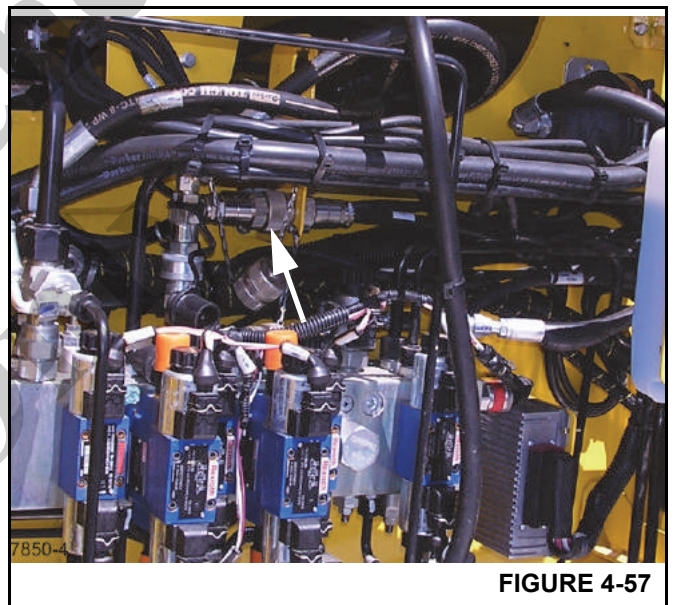

FIGURE 4-57
23. Connect electrical wires as tagged before removal (Figure 4-57).